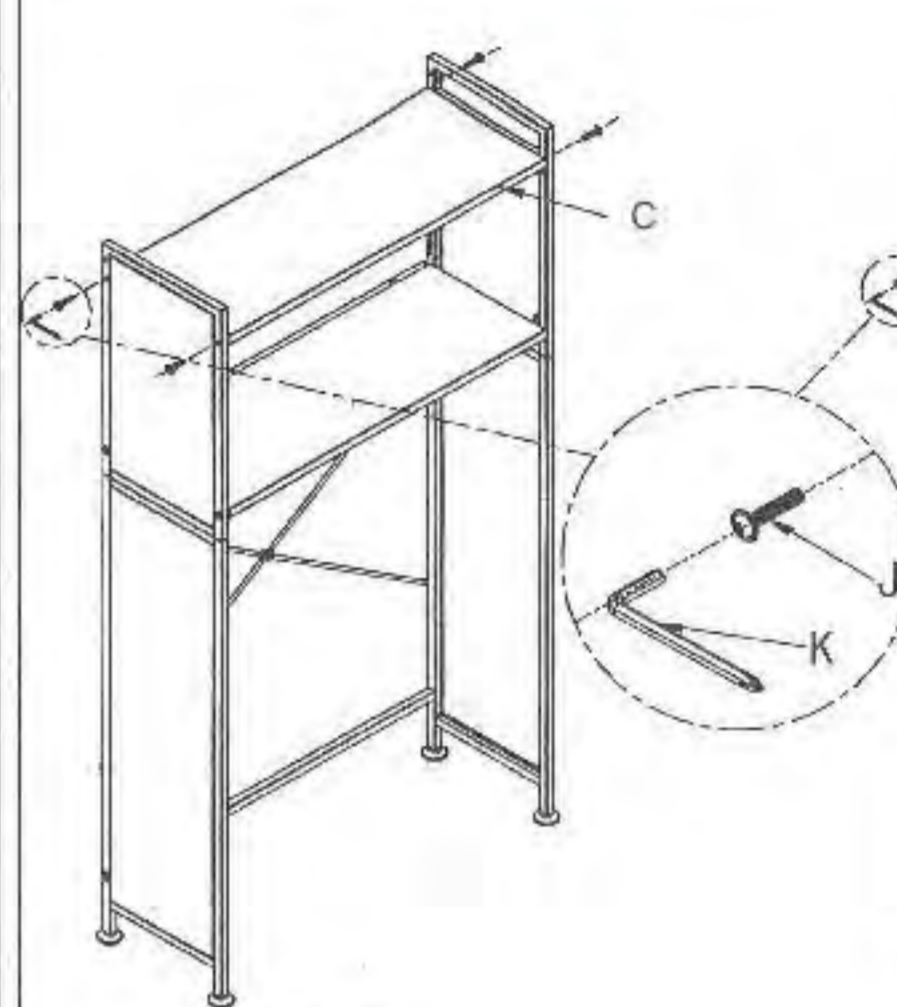
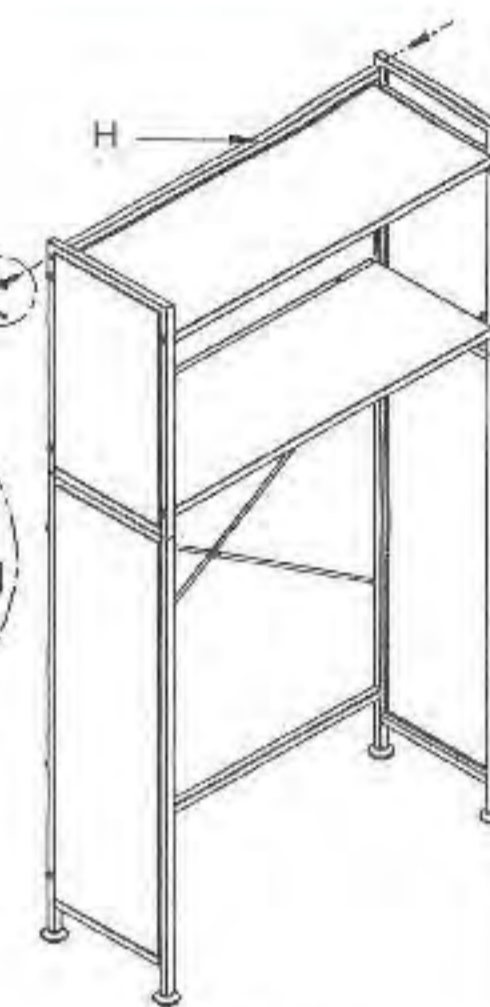

Figure 5
Figure 6
4. First use M6\*25 pan head hexagon socket screws to fix the door to the left and right upper side frames. Then install the door panel into the guide groove, as shown in Figure 5, and then install the door panel and connecting pipe in accordance with Figure 6.